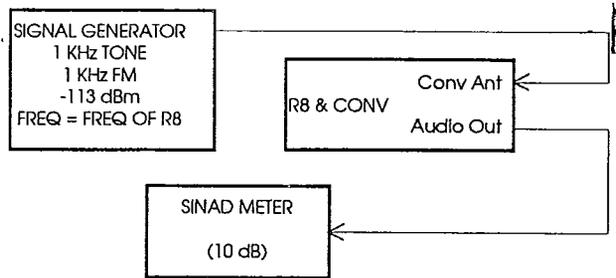

Figure 6 Sensitivity Test
2. Measure 12dB SINAD at the following frequencies shown in the table using the setup shown in Figure 6. Make sure that the converter meets or exceeds the specification and that it is not microphonic at each frequency.